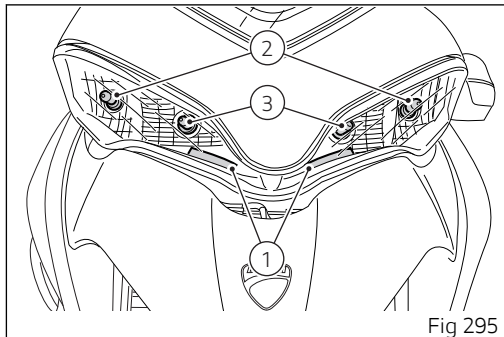

Fig 295
(Fig 295) shows the location of the LED parking lights (1), the LED low beams (2) and the high beam bulbs (3).